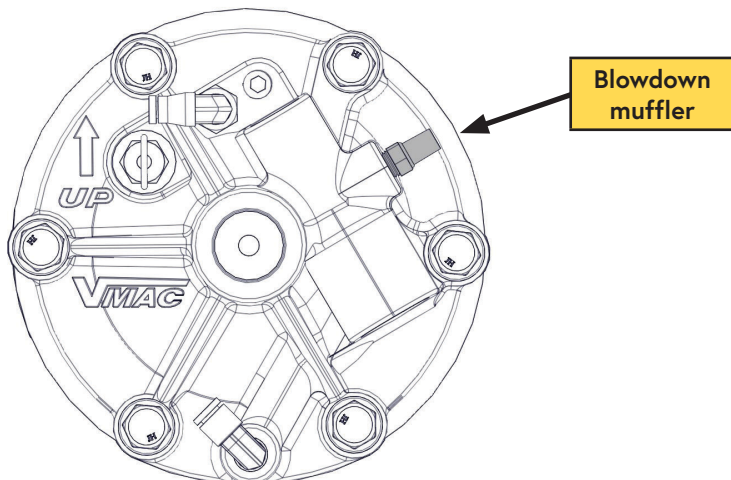

Figure 31 — Blowdown muffler
- ☐ Apply thread sealant and replace the blowdown muffler (Figure 31).